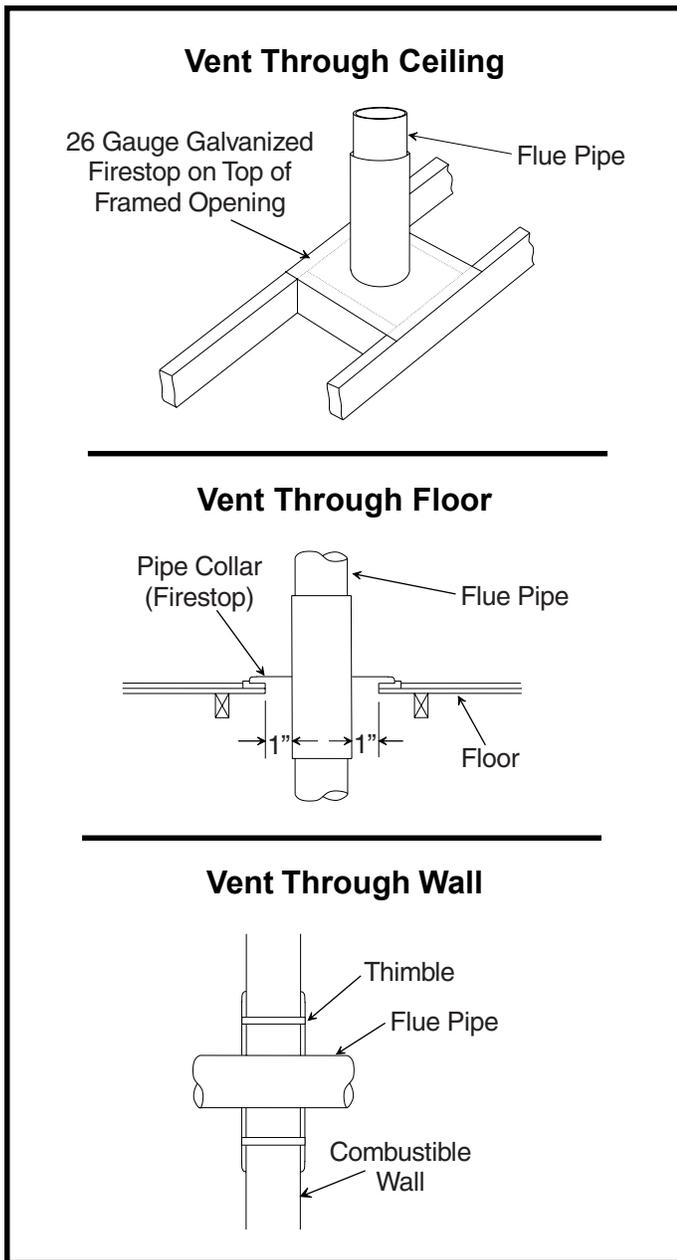

Figure 8
6. All vents passing through floors, ceilings, and walls must be firestopped according to the requirements of the National Fuel Gas Code (see Figure 8).